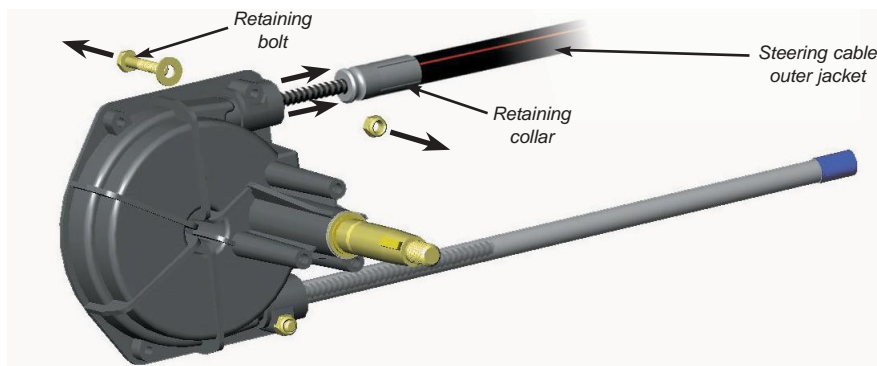

Fig B10 - Remove steering cable from existing manual helm
- Remove the steering cable from the helm unit (Fig B10).